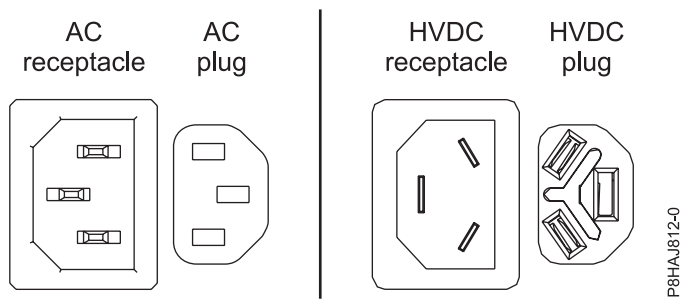
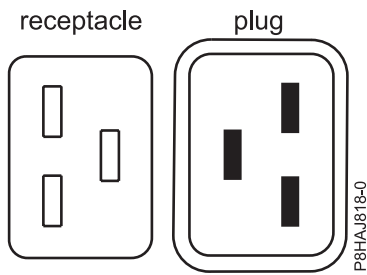
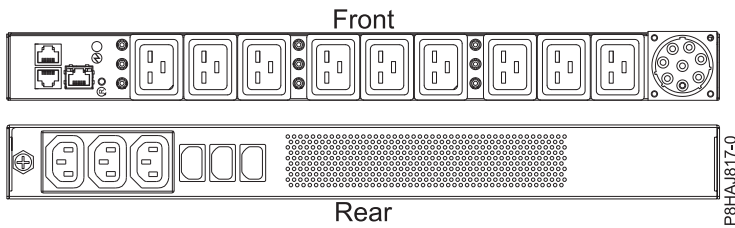

Figure 34. AC and HVDC connectors
Figure 35. Connectors for the 8408-44E system
Figure 36. PDU for the 8408-44E system
Figure 34 shows the supported alternate current (AC) and high voltage direct current (HVDC) connectors. Figure 35 and Figure 36 show the supported connectors and power distribution unit (PDU) for 8408-44E.